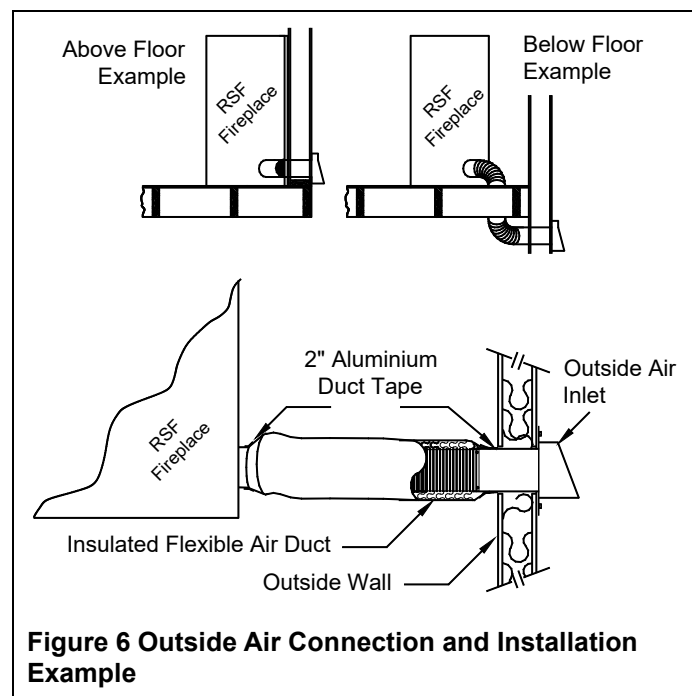

Figure 6 Outside Air Connection and Installation Example
1. Find a convenient location for the insulated flexible duct and outside air inlet. The outside air inlet can be above or below floor level (see Figure 6).